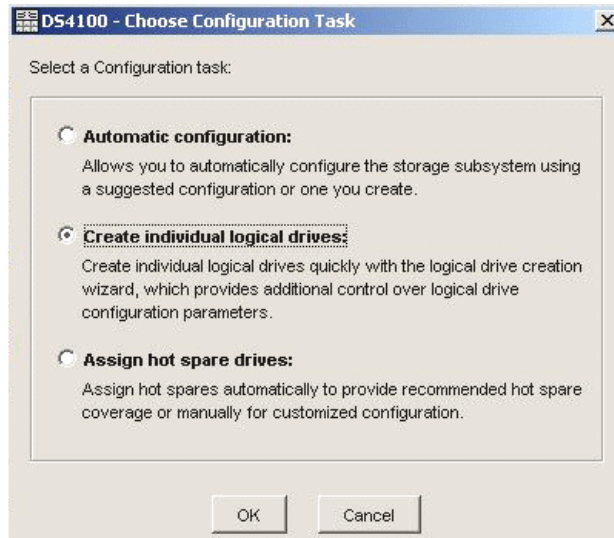

Figure 9-39 Choose Configuration Task window
8. Click **Configure Storage Subsystem**. You will see a window similar to Figure 9-39.